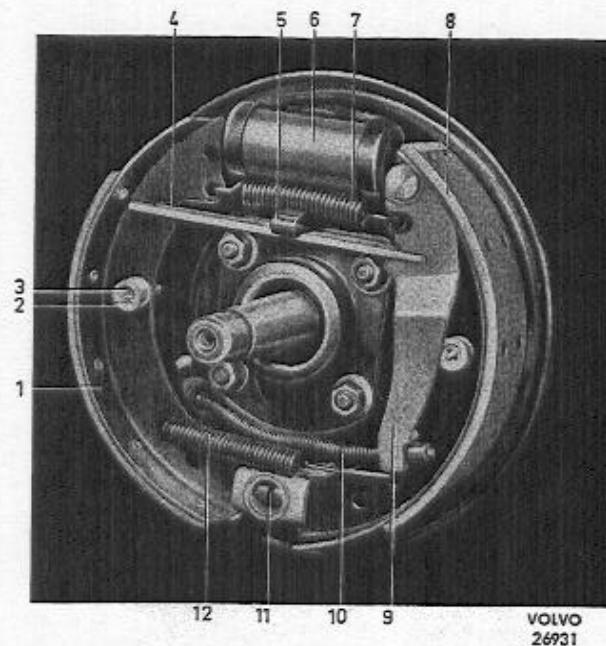

Fig. 45. Rear wheel brake unit.
- Rivet on the ready-manufactured original linings. The front lining is placed at the bottom of the shoe and the rear one on top, see Fig. 45. Use rivets in accordance with the specifications and a rivet press with suitable drifts. Begin to rivet at the centre and continue 'outwards towards the ends. Check after riveting that the brake lining beds down properly along its whole length.
- Place the handbrake link in position and make sure that it is turned the right way round. Hook on the lower return spring and fit the front brake shoe with guide pin and locking clip. Hook on the upper return spring with brake pliers. Remove SVO 4074. Fit the spring clip (5, Fig. 45).